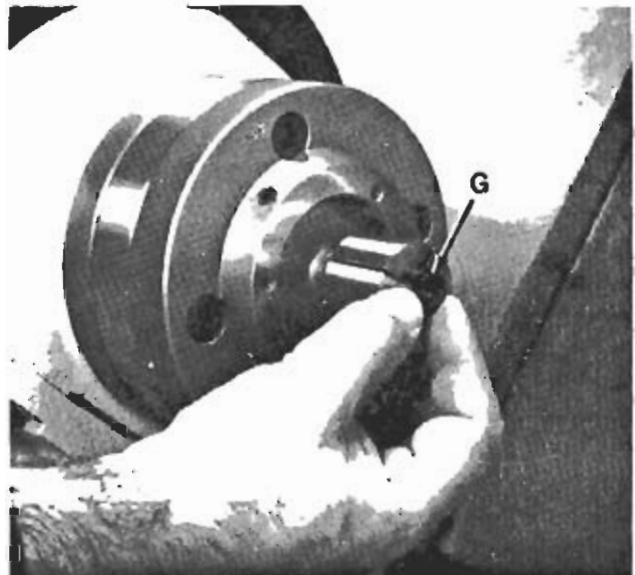

Figure 10 - Emergency Collet Limit Ring
When using limit ring "G", Figure 10, for machining Models S and M emergency collets, DO NOT EXCEED the following hydraulic collet closer gauge pressure settings:
7. Press the COLLET OPEN pushbutton and remove limit ring "G", Figure 10.